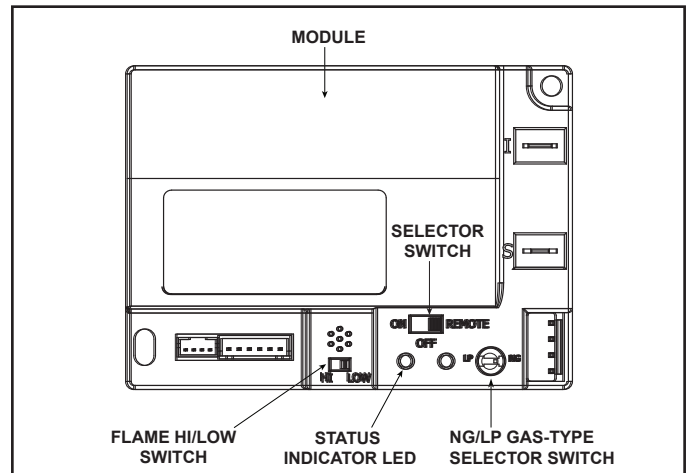

Figure 3.4 Control Module
1. The control module has an ON/OFF/REMOTE selector switch that must be set. See Figure 3.4.
2. If using a wired wall switch with the module in REMOTE mode, the flame output can be adjusted with the HI/LO selector switch on the module. See Figure 3.4. Note that the flame HI/LO selector switch will become inactive once the remote control (RC200) is programmed to the control module. Note that the control module will always ignite the fireplace on HI and remain so for the initial 10 seconds of operation. If the HI/LO is switched to the LO position, the flame output will automatically drop to the lowest setting after the flame has been established for 10 sec. After this 10 second period, the flame can be adjusted from HI to LO with the switch.
- Locate the module selector switch. See Figure 3.4.
- Wait five (5) minutes to allow possible accumulated gas to clear.